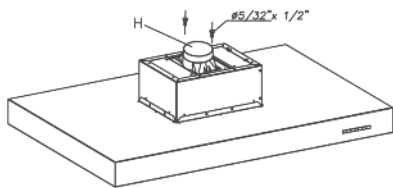

Fig. 1
• Use the two screws to attach the reducer pipe H to the upper platen (Fig. 1). Connect the 6" non-flammable pipe to the opening in the ceiling.